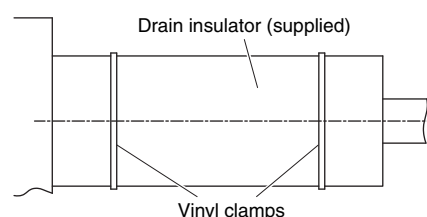

Fig. 3-92
- (2) After connecting the drain piping securely, wrap the supplied packing and drain pipe insulator around the pipe, then secure it with the supplied vinyl clamps. (Fig. 3-92)